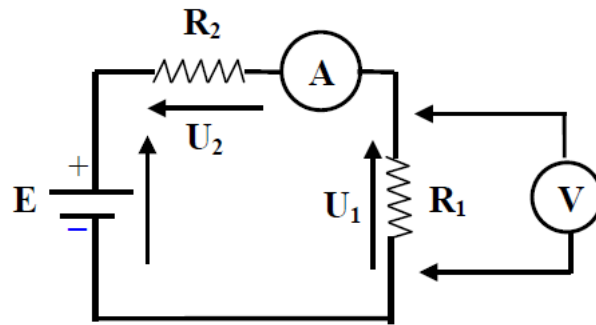

Figure 5: Measuring current and voltage using an ammeter and voltmeter
1. Assemble the circuit shown in Figure 5 below (have it checked by the practical teacher before applying power).